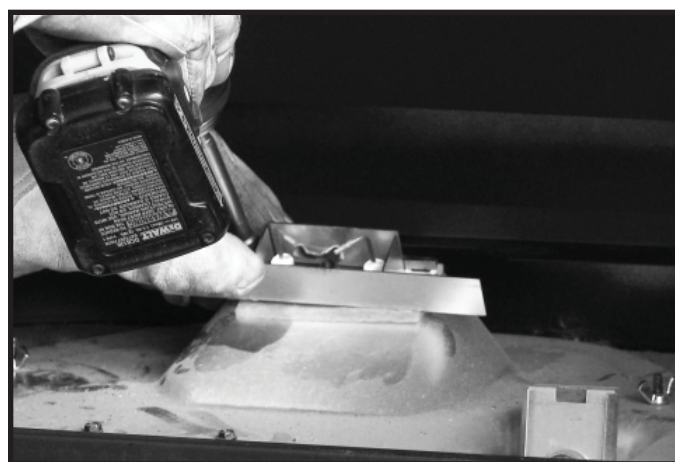

Figure 16.
8. Install pilot shield. Pilot shield is assembled on top of pilot assembly. See Figure 16.